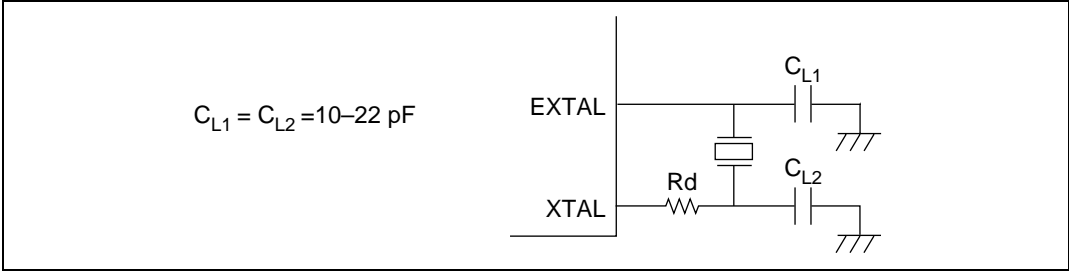

Figure 7.2 Connection of Crystal Resonator (Example)
Circuit Configuration: A crystal resonator can be connected as shown in figure 7.2. Use the damping resistance R_d shown in table 7.1. Use an AT-cut parallel resonating crystal with a frequency equal to the system clock (CK) frequency. Connect load capacitors (C_{L1} and C_{L2}) as shown in the figure. The clock pulse produced by the crystal resonator and internal pulse generator is sent to the duty cycle correction circuit where its duty cycle is corrected. It is then supplied to the chip and to external devices.